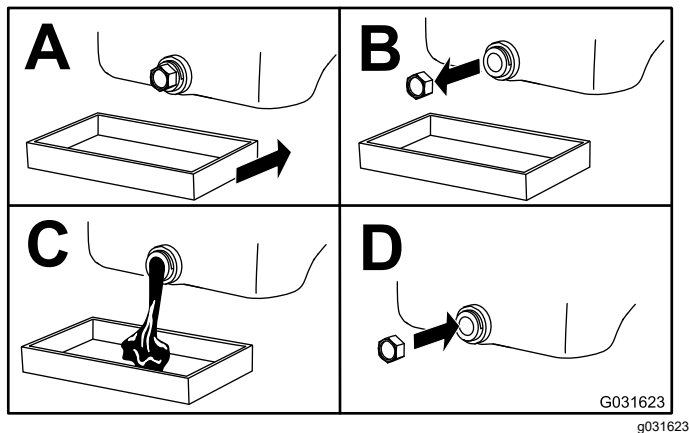

Figure 42
5. Change the engine oil as shown in Figure 42.